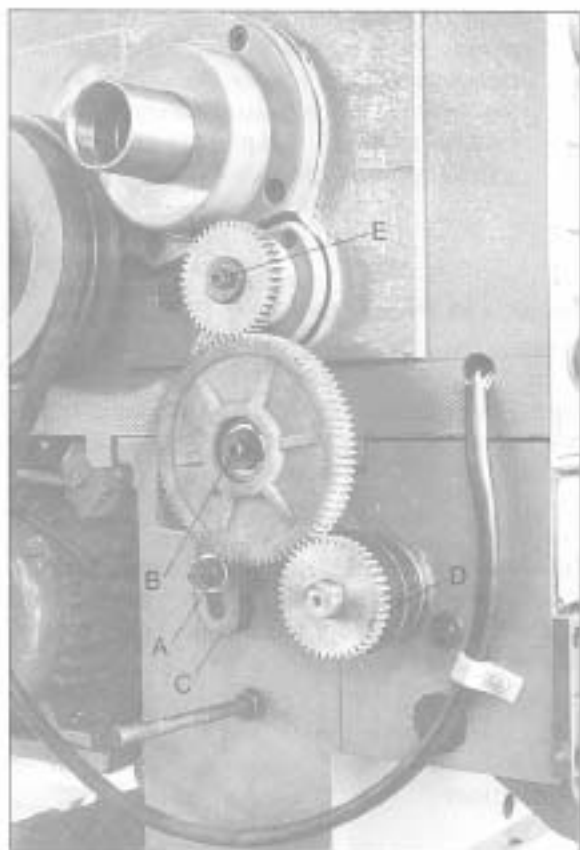

Fig. 15
3. Loosen nut (A, Fig. 15) and hex socket cap screw (B, Fig. 15).
4. Swing the quadrant (C, Fig. 15) toward the front of the lathe.
5. Remove hex socket cap screw (E, Fig. 15) or set screw (D, Fig. 15), depending on which gear is to be changed.
7. Loosen nut (A, Fig. 15) Move the quadrant back so teeth mesh on gears, and tighten nut (A, Fig. 15) and the hex socket cap screw (B, Fig. 15) to hold the quadrant in place. **Make sure there is a backlash of .002 - .003 between gears. Setting the gears too tight will cause excessive noise and wear.**